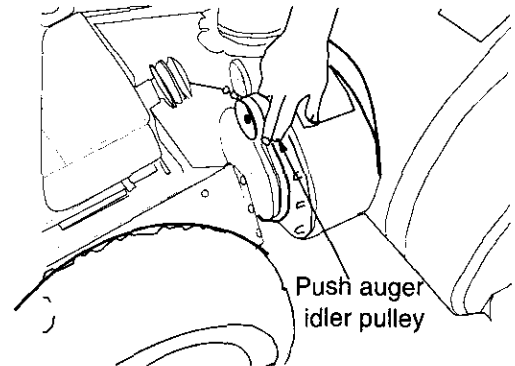

Figure 28
- To remove the front auger drive belt, push the idler pulley to the left. See Figure 28. The belt brake should move outward. Lift the front auger drive belt from the front auger pulley.